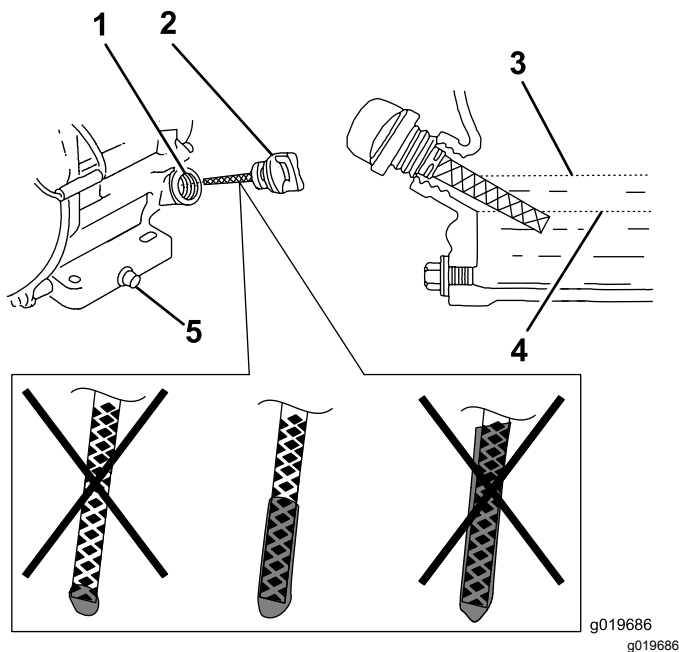

Figure 18
6. Remove the dipstick and check the engine-oil level (Figure 18).